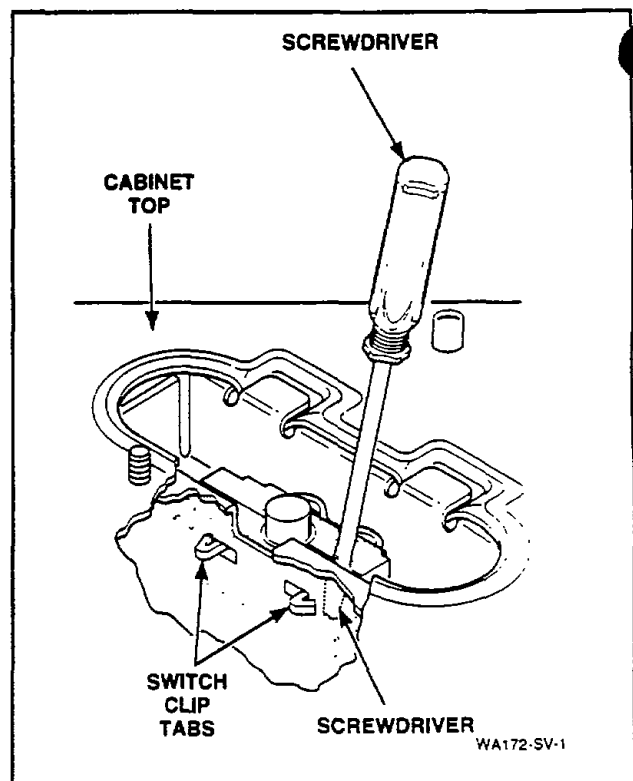

Figure 41
- Place the blade of a small screwdriver, or similar device, between front of switch and switch holder, *Figure 41*.
- Slide the blade to the left to disengage the switch clip tab holding the switch to the switch holder, *Figure 41*.